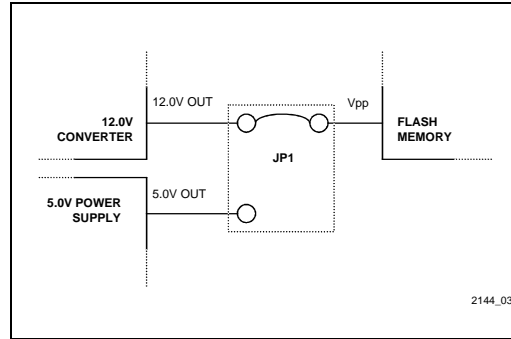

Figure 1. Jumper Selection of 12V Converter or 5V Power Supply Output for V_{PP}
-003	<p>Added 3/5# pin to Figures 1 and 2; Updated Sections 1.0, 2.1 and 2.8 accordingly.</p> <p>Updated Tables 4–7 to reflect specifications of latest datasheet revisions.</p> <p>Added "Erase Suspend Latency Time to Read" and "Auto Erase Suspend Latency Time to Write" Specifications to Tables 4–7.</p> <p>Increased I_{PPR} (V_{PP} Read Current) for $V_{PP} > V_{CC}$ to 200 μA at $V_{CC} = 3.3V$ and $V_{CC} = 5V$</p> <p>Increased t_{PHQV} Specifications at 5V V_{CC} to 400 ns in Table 11.</p> <p>Updated Additional Information Section.</p> <p>Made minor cosmetic changes throughout document.</p>